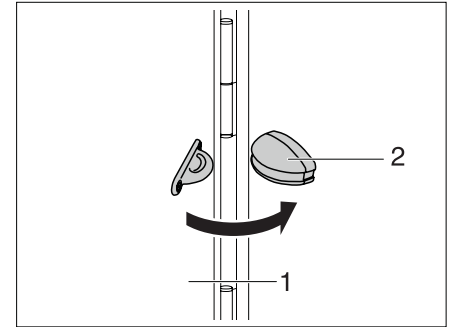

Fig. 31 Holding device external flap
- Open the external flap (Fig. 31,1) and swing it towards the vehicle side.
- Press the external flap into the holding device (Fig. 31,2).
- Pull the external flap (Fig. 31,1) with a firm tug out of the holding device (Fig. 31,2). Close the external flap.